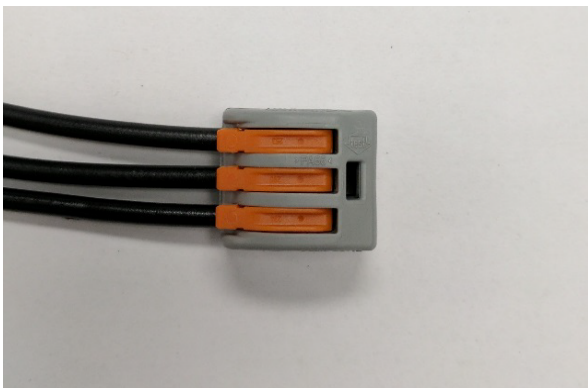

Figure 18 – After installing line voltage motor connection in 3-position lever nut for dual motors
- vi. Take BLACK wire removed from “LINE VOLTAGE IN” portion of FCRB in Step 4 and install on male quick-connect/BLACK wire on WH3 (see Figure 18).
- a. **(DUAL MOTORS ONLY)** Cut off male quick-connect on WHITE wire on WH3. Locate the two WHITE wires removed from “TO FAN MTR” portion of FCRB in Step 3. Install all three wires into the 3-position lever nut (see Figures 18 and 19).